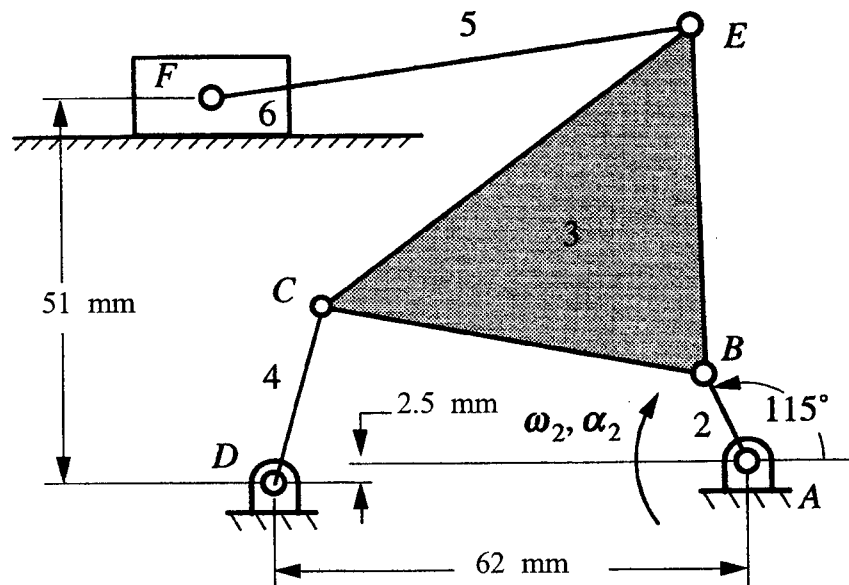

Figure 2
2. The angular velocity of link 2 of the mechanism shown in Figure 2 is 20 rad/s, and the angular acceleration is 100 rad/s2 at the instant being considered.